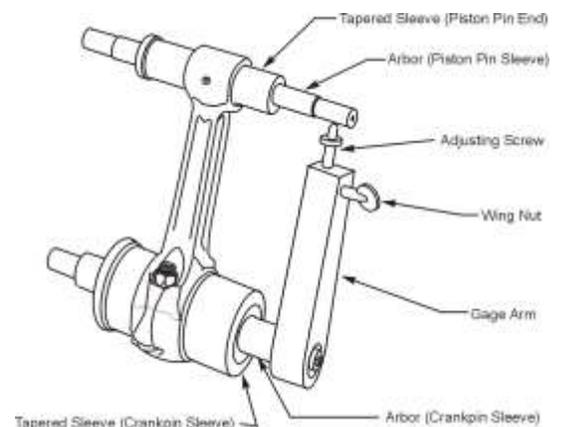

Figure 39
- B. Insert the tapered sleeves (Figure 39) of the Connecting Rod Parallelism and Squareness Gage P/N 64530 in the bearing holes in the connecting rod.
- D. Install the gage arm on the arbor as shown in Figure 39.